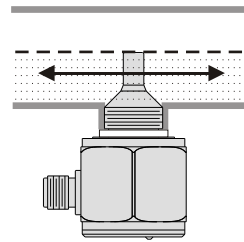

Fig. 3
- (3) When the fluid does not completely fill the pipe, SP-150 must be installed below the pipe. And the fluid level must be higher than the tip of the SP-150. (See Fig. 3)